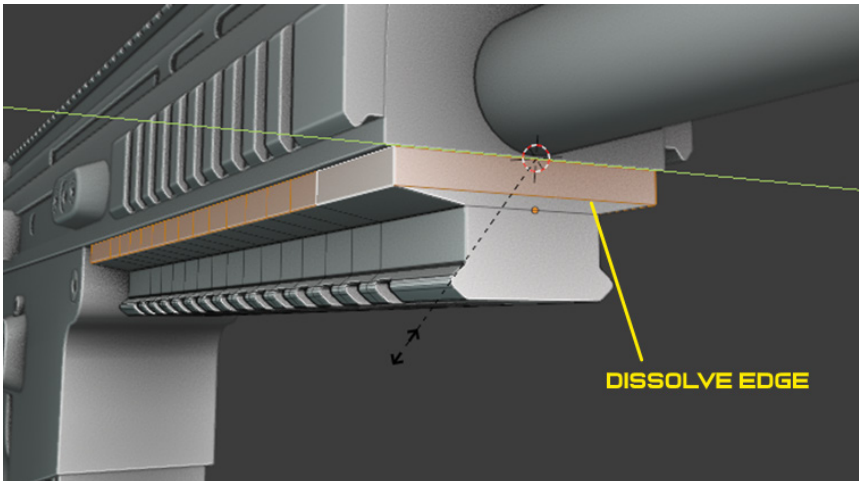

Figure 3.43 – Bottom rail base
10. Scale this face loop on the Y axis until it's just a little narrower than the handguard and dissolve the edge marked in *Figure 3.43*. Dissolving this edge will allow us to create cleaner bevels.